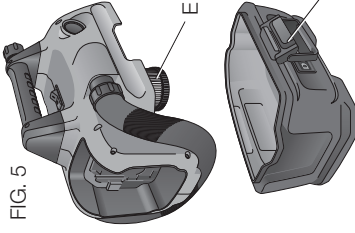

FIG. 5
- E. Filter (Fig. 5)
Vacuum Cleaning TO EMPTY TANK (FIG. 5)